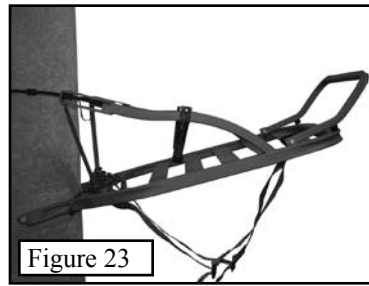
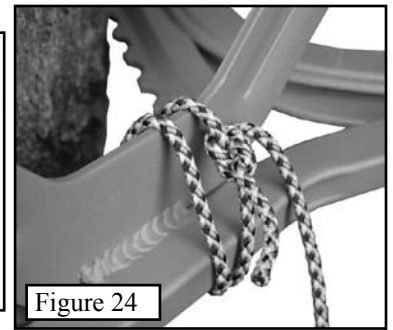

Figure 23
Figure 24
**WARNING:** Usually, the front edge of the treestand (the edge away from the tree) should be 4-6 inches higher than the edge against the tree (See **Figure 23**). The treestand seat climber attaches above the standing platform and should also have the same basic angle as the platform before you start to climb. **WARNING:** The standing platform and climber **MUST BE** attached to each other with the tether rope supplied, as shown in **Figure 24**. Wrap the rope around **TWICE** before tying it off.